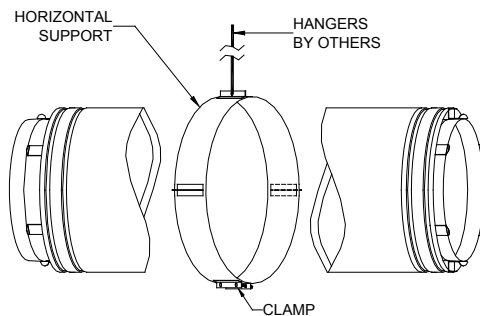

Figure 1
Saf-T Vent CI Plus/CI 316 must have supports for every six (6) feet of horizontal run and after every transition from vertical to horizontal. For large diameters, 24"-32" use parts numbered CCM24HZZS - CCM32HZZS. The support may be attached from the center bracket, figure 1 or attached to the side brackets, figure 2. Support hangers by themselves do not maintain the necessary clearances to combustible materials; be sure to consider clearances when planning the system. For 4" thru 22" diameters use support clamp part number 4627SS-42427SS and attach as appropriate.